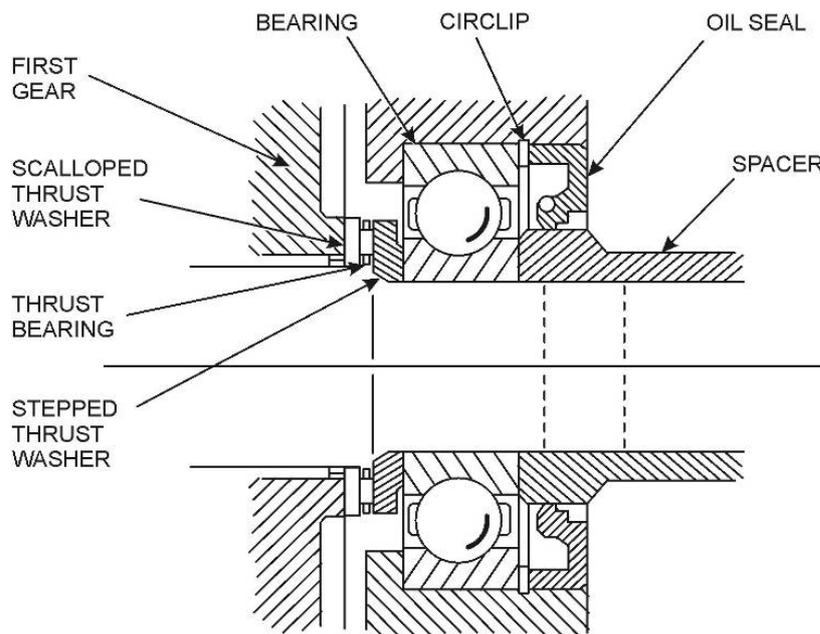

Figure 90 Installation of the Seal and Rear Spacer
- p.** Install the mainshaft rear spacer on the shaft and position it in the seal (Figure 90).